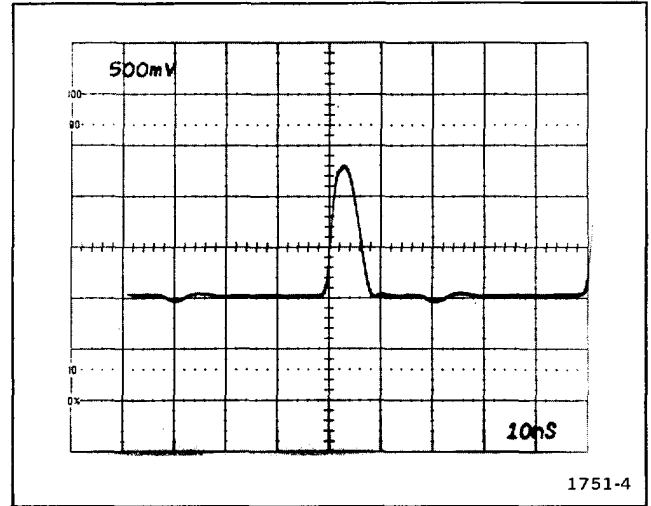

Fig. 5-15. Fast delay time accuracy.
- e. Align the leading edge of the time-mark to the center vertical graticule line, using the POSITION control. See Fig. 5-15 for reference.